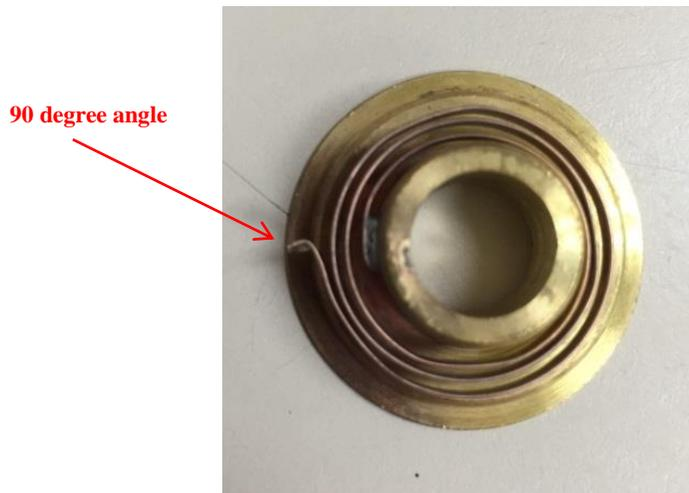

Figure 3
- 2.4 Verify that the hook at the end of the coil is at a 90 degree angle and is inside the outer diameter of the InGage body. (Figure 3)